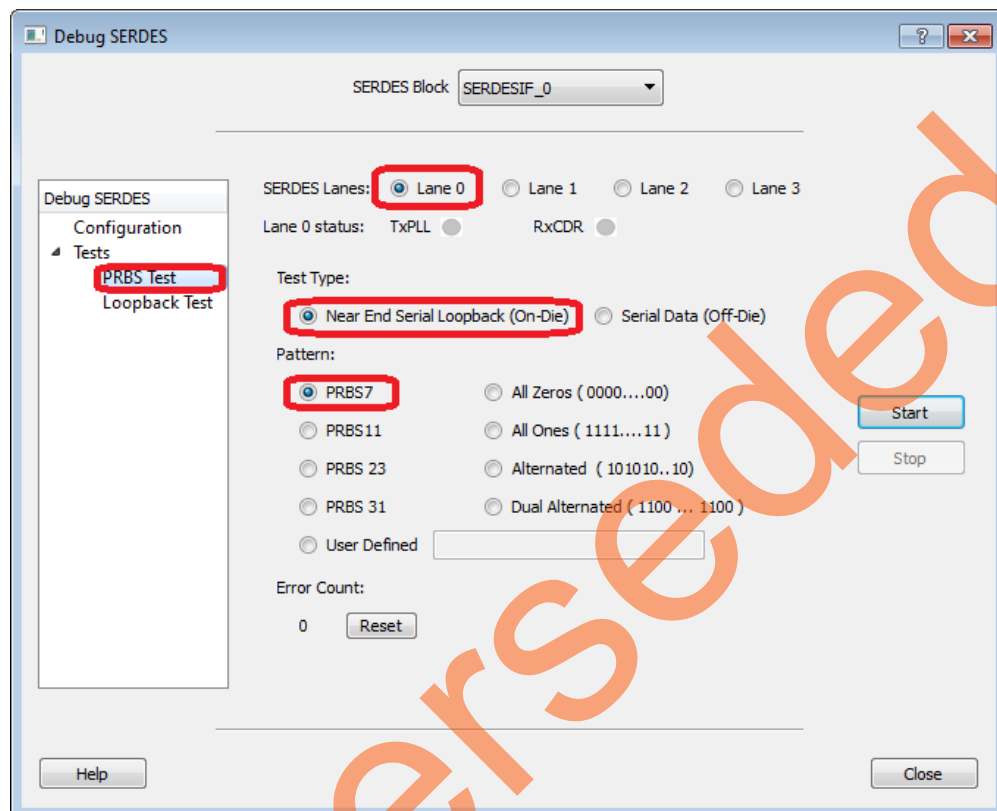

Figure 2-21 • SERDES Test Tab
3. The **PRBS Test** tab provides several capabilities for each Lane of the SERDES Block. The information is provided per-channel, based on the SERDES Lane selected within the GUI. For example, select **Lane 0**, select the **Near-end Serial Loopback test type**, and select **PRBS7 Pattern**. This test will generate and check PRBS7 data without going off-chip, as shown in Figure 2-21.